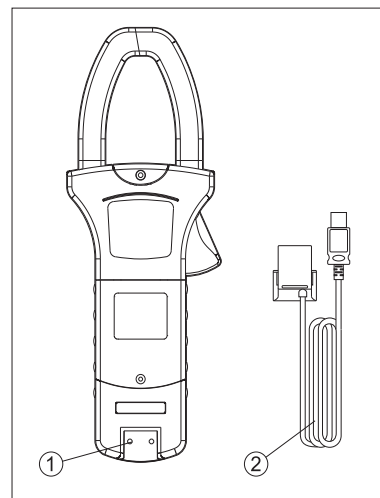

Figure 2
⑪	V1 Input Terminal (First phase measurement)
⑫	COM Input Terminal
⑬	CLEAR button (maximum and minimum)
⑭	Σ button (Sum)
⑮	SAVE button (data store button)
⑯	USB button
⑰	LIGHT button (auto display backlight button)
⑱	HOLD button
⑲	LCD Display
⑳	Testing Leads (Red, Black, Blue and Yellow)
B. The Meter Back and Bottom Structure (see figure 2)